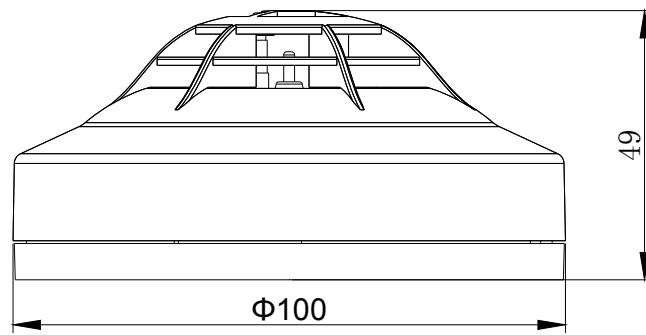
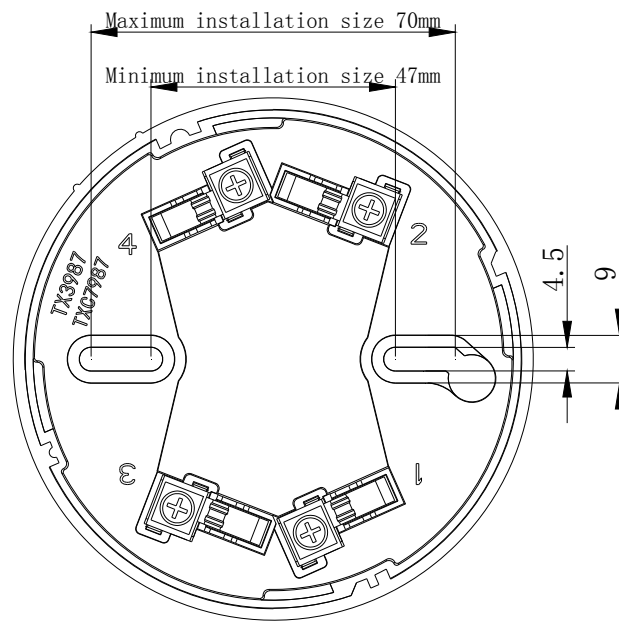

Fig. 1: Appearance & Dimension
Fig 2 TXC7987 Mounting Dimension
- 4.1 The structure and dimension are shown in Fig 1 & Fig 2: